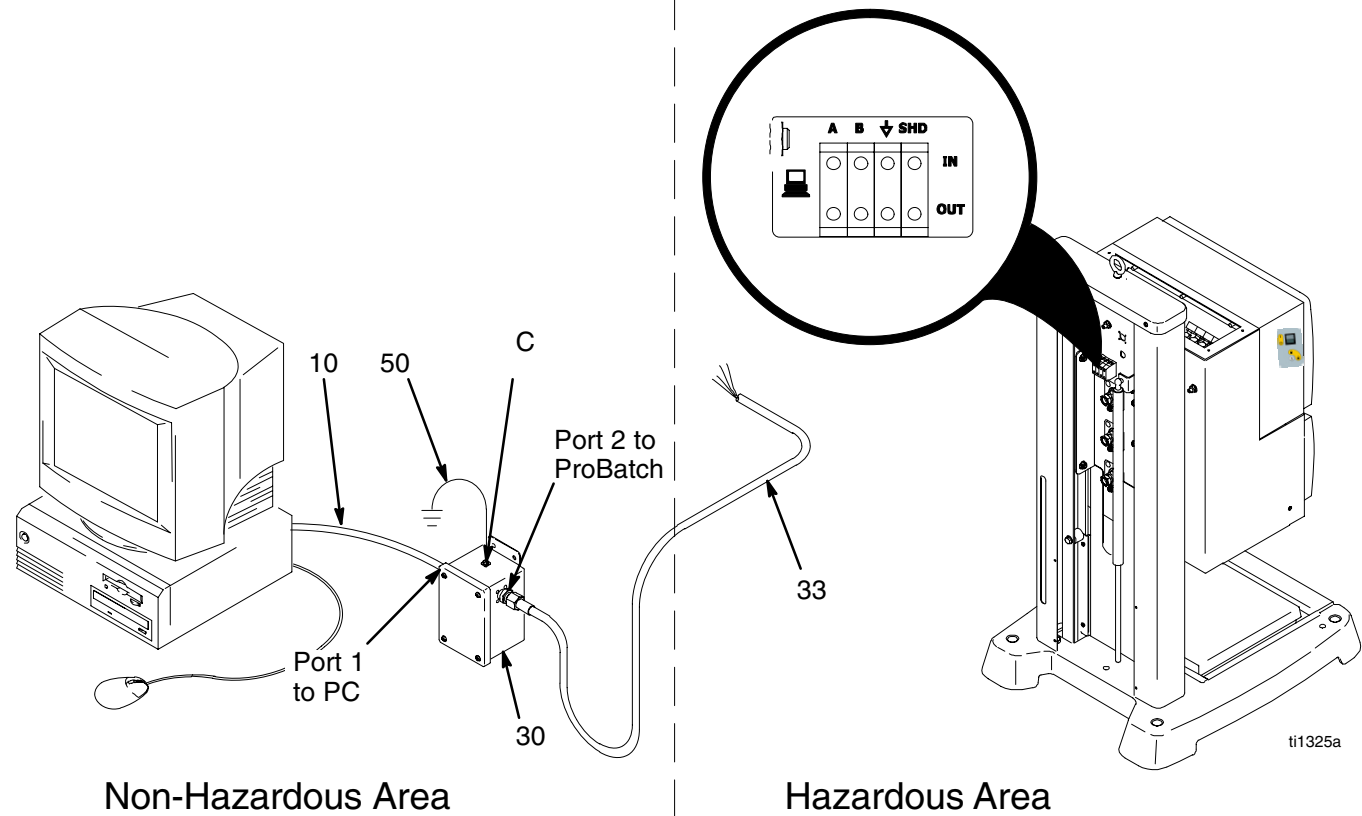

Fig. 5
3. Mount the network interface (30) in the non-hazardous area (Fig. 5).
4. Connect the ground wire assembly (50) to the network interface ground lug (C) (Fig. 5).
5. Measure the resistance between the network interface ground lug (C) and true earth ground. The resistance should be less than 1 ohm.